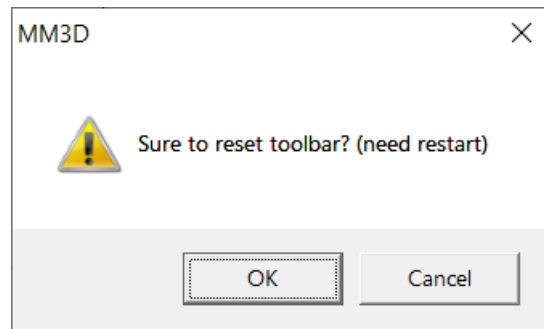

Fig. 1.9.03
- Reset Toolbar (System Default)** Restore the default position of the MM3D toolbar. After confirming, the system will prompt that the program needs to be restarted. The screen is shown in Figure 1.9.03.